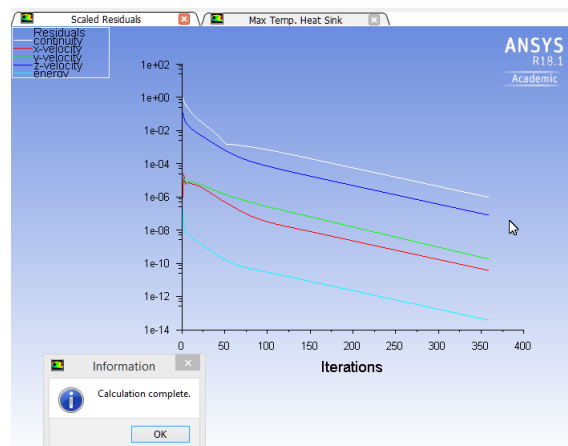
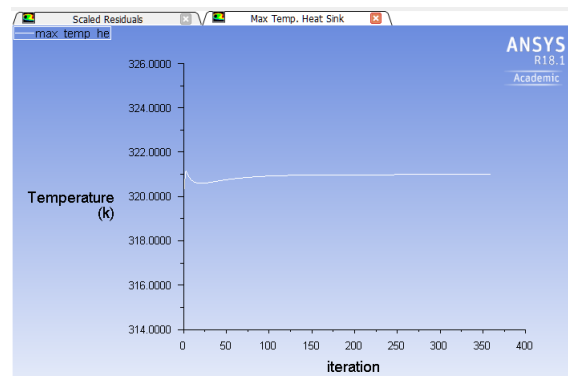

Figure 56: Residuals for the converged solution.
Figure 57: Maximum temperature of the heat sink during the solution.
- In the *Run Calculation* group, click the *Calculate* icon (  ). The residuals history, during the calculation, will be plotted in the *Scaled Residuals* window, figure 56, while the highest temperature in the heat sink will be plotted in the *Max Temp. Heat Sink* window, shown in figure 57.
11Since the residual values vary slightly by computing platform (hardware, OS), the plot that appears on your screen may not be exactly the same as the one in figure 56.